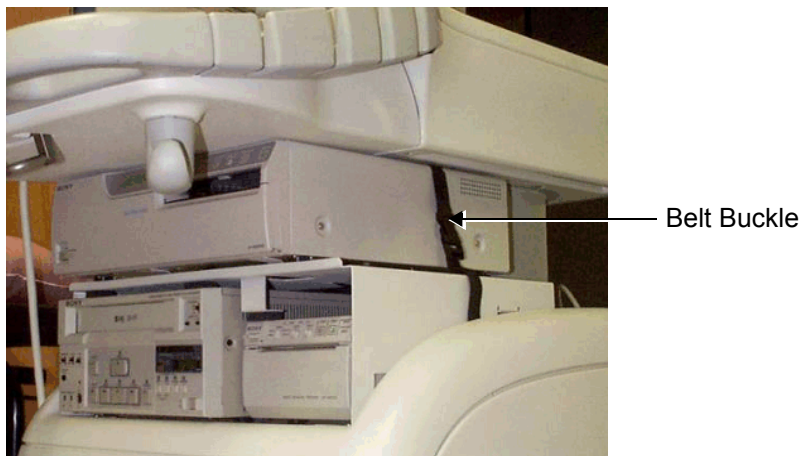

Figure 8-159 Belt Buckles Securing Printer
- 1) Unlock the belt buckles located on either side of the color printer, as shown in Figure 8-159 on page 8-161.